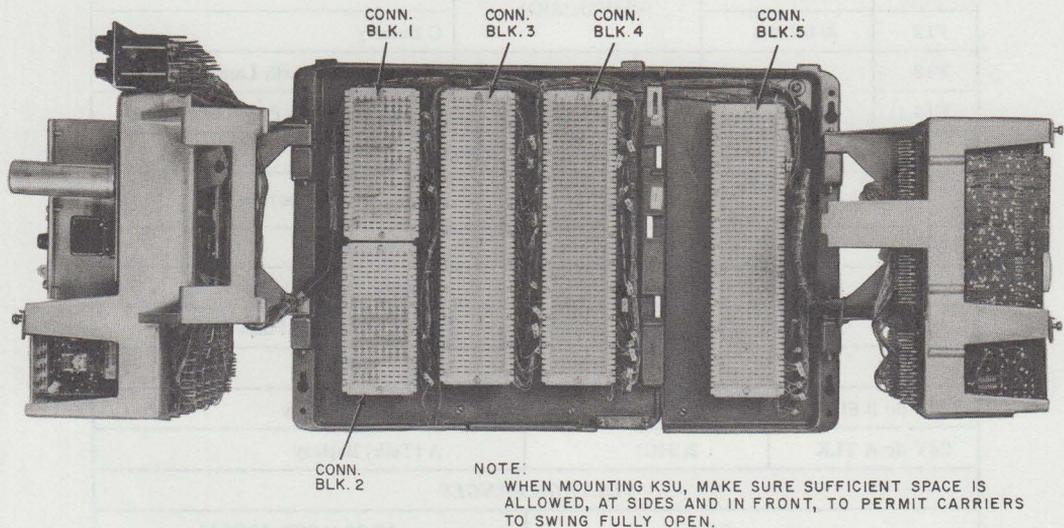

Fig. 2—570-Type KSU (Carriers Open)
**2.05** All wiring connections are made on connecting blocks located in the KSU (Fig. 2). Since all stations pick up all lines on the same button at each telephone set, all equipment connections are factory-wired to the connecting blocks.